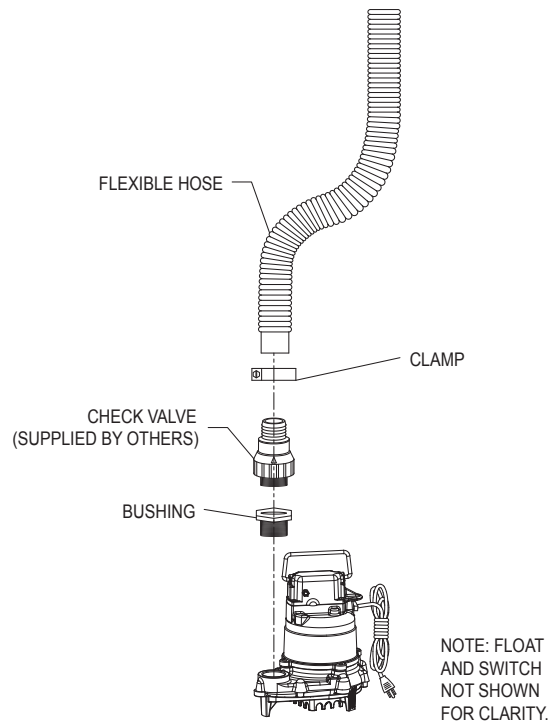

Figure 5.1
- 5.4) If the pump begins to “short cycle” as described in part “C” of the troubleshooting guide, then it will be necessary to install a check valve in the discharge line. This will prevent water from draining from the discharge line back into the pit. Refer to Figure 5.1. If a check valve is installed, the discharge pipe must be protected from freezing. Refer to Step 6 for freezing protection.